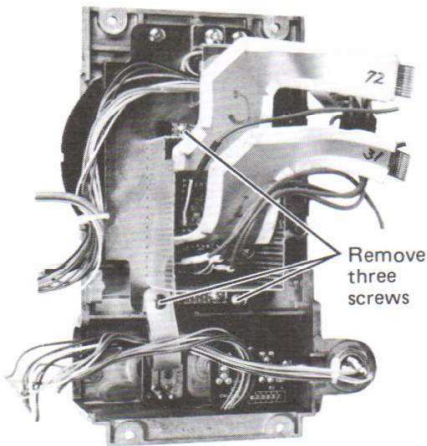

Fig. 3-8
- Remove three screws holding the shield case (M7) and remove the shield case. (Fig.3-8)